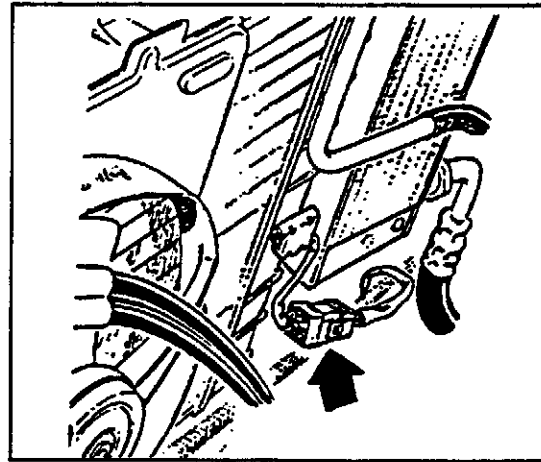

Figure 2. 4-pin connector (H4-14).
2. Unplug the 4-pin connector (H4-14) for the temperature switch and disconnect the blue lead (881 BU 0.5) from position 1. Refer to Figure 2.